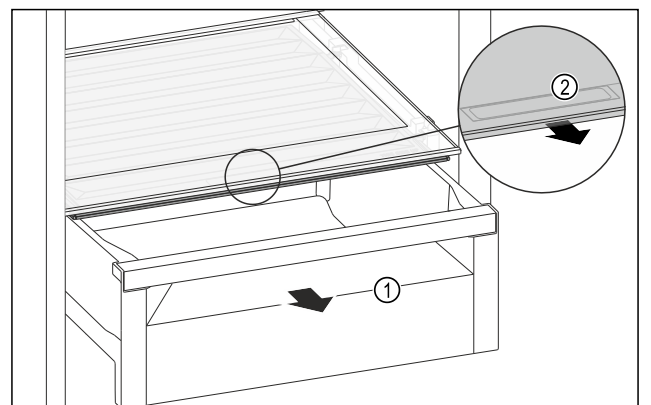

Fig. 150
- Pull out the drawer Fig. 150 (1).
- Grasp the recessed grip Fig. 150 (2) on the compartment lid and pull the compartment lid forwards at the same time.